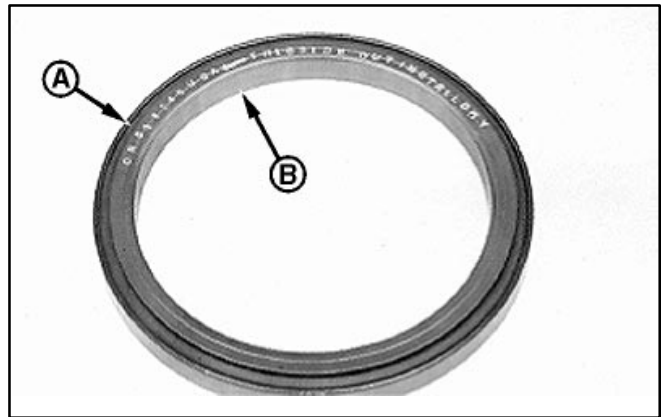

FIGURE 7-39. REAR OIL SEAL
Note 1: The rear oil seal (A) and wear sleeve (B) are fabricated as a non-separable part. See Figure 7-39.